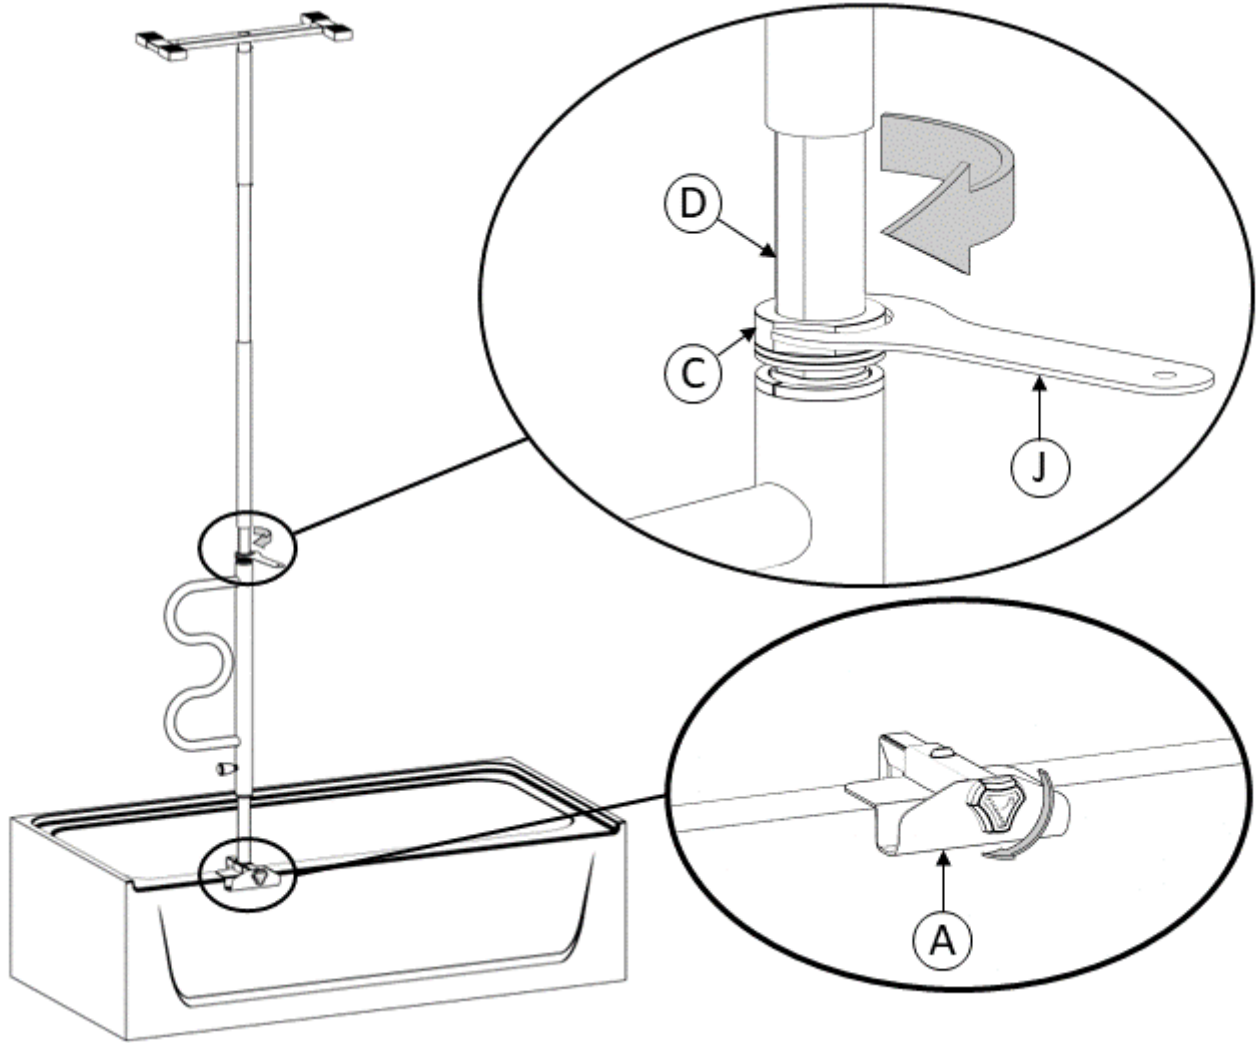

FIGURE 10
10. Ensure that the product is completely vertical (plumb). Tighten **C** using **J** as shown in *FIGURE 10*. Fully tighten **A**. Ensure the product is secured between the bathtub and the ceiling with ABSOLUTELY NO sliding of the product. **Caution:** Do not overtighten as doing so may damage the bathtub, ceiling, or this product.